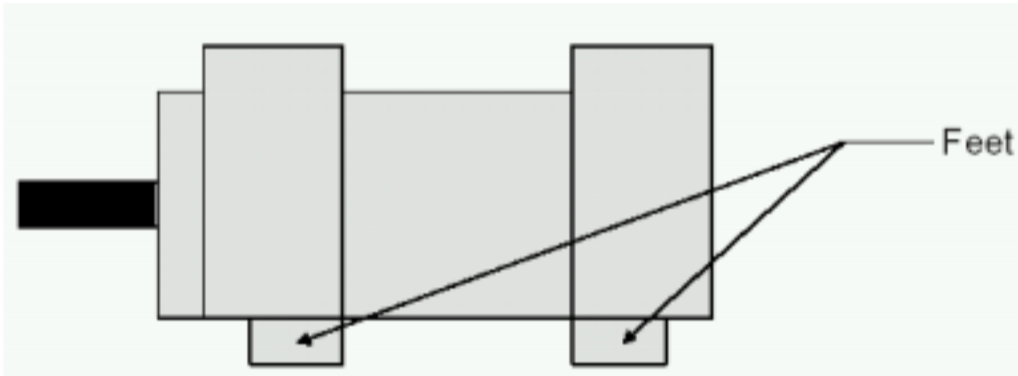

Figure 3 - Foot Mounted Pump
D.6.3 Aligning Foot Mounted Pumps - See Figure 3